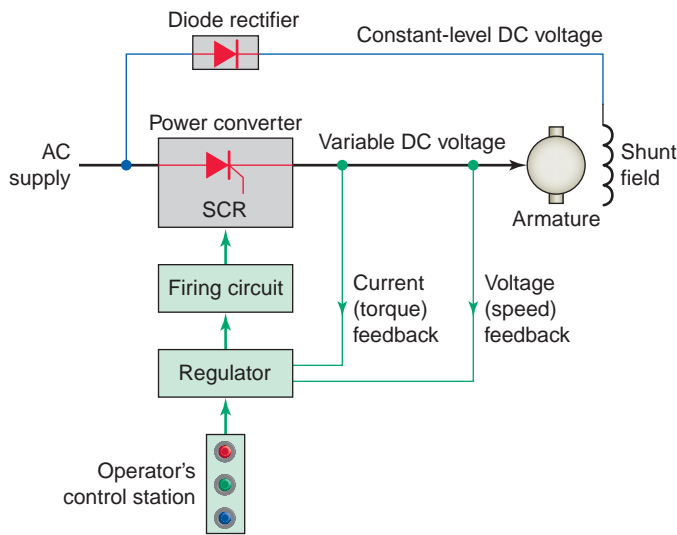

Figure 10-33 Block diagram of a DC drive system.
The block diagram of a DC drive system made up of a DC motor and an electronic drive controller is shown in Figure 10-33. The shunt motor is constructed with armature and field windings. A common classification of DC motors is by the type of field excitation winding. Shunt-wound DC motors are the most commonly used type for adjustable-speed control. In most instances the shunt field winding is excited, as shown, with a constant-level voltage from the controller. The SCR (silicon controller rectifier), also known as thyristor, of the power conversion section converts the fixed-voltage alternating current (AC) of the power source to an adjustable-voltage, controlled direct current (DC) output which is applied to the armature of a DC motor. Speed control is achieved by regulating the armature voltage to the motor. Motor speed is directly proportional to the voltage applied to the armature.